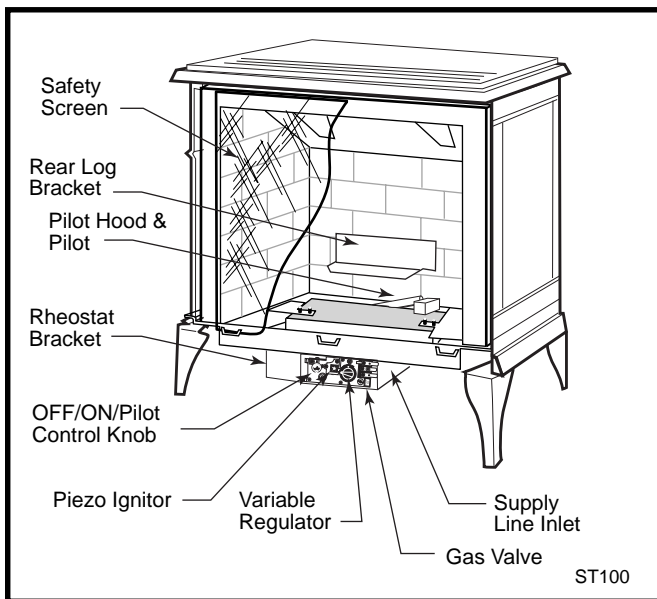

Fig. 2 JUVS gas heater. Valve may be different.
A. Open or provide at least two ventilating grilles to an adjoining unconfined space. (Fig. 2)